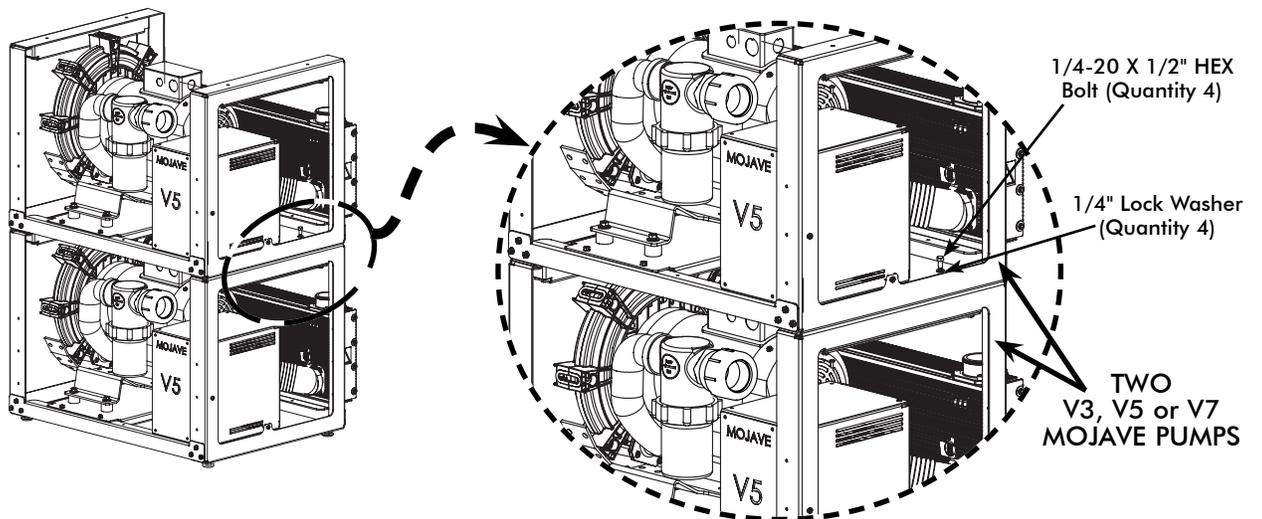

Figure 7. Stacking Two MOJAVE Pumps Hardware Detail
- Stack the associated **MOJAVE** pumps as shown by Figure 7.